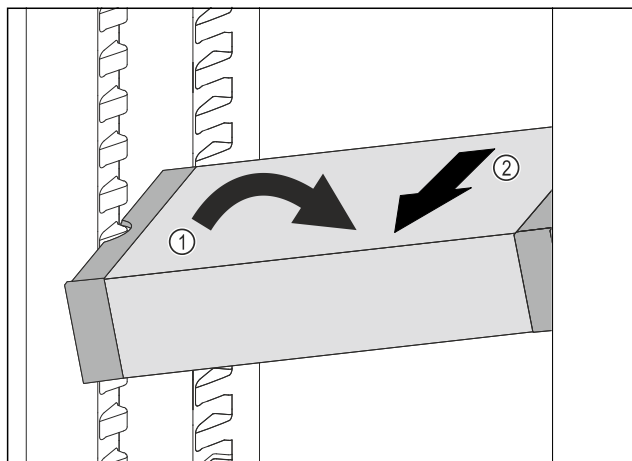

Fig. 73
- Set VarioSafe in refrigerator compartment at an angle. Fig. 73 (1)
- Take VarioSafe out to the front. Fig. 73 (2)